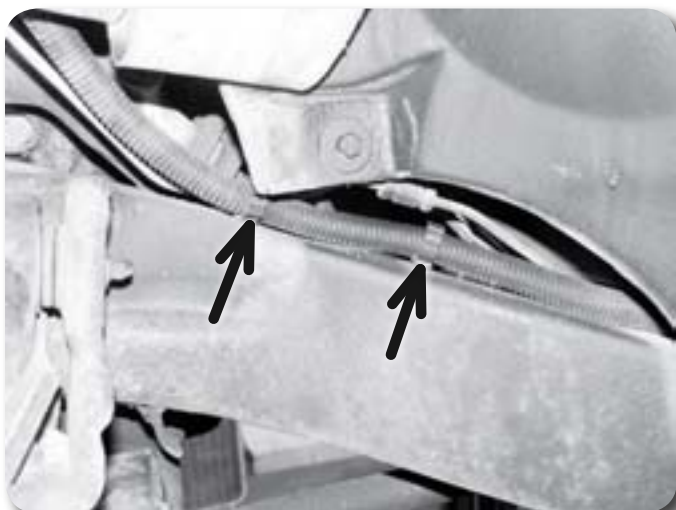

Figure 20
30. Remove the wire harness from the plastic retaining clip on the driver's side frame rail Figure 20.